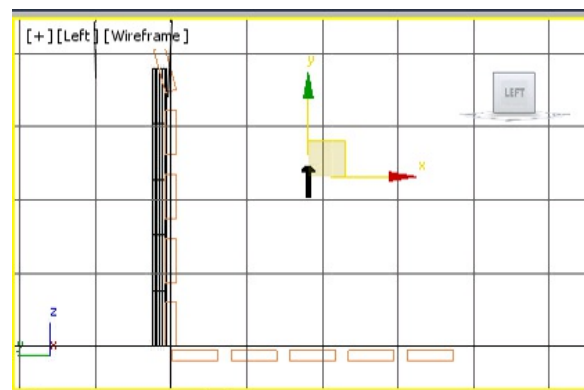

Figure 2-78 The rivet001 group in the Left viewport
13. Choose the **Zoom Extents All** tool and move *rivet001* in the Left viewport to visualize it properly, as shown in Figure 2-78.